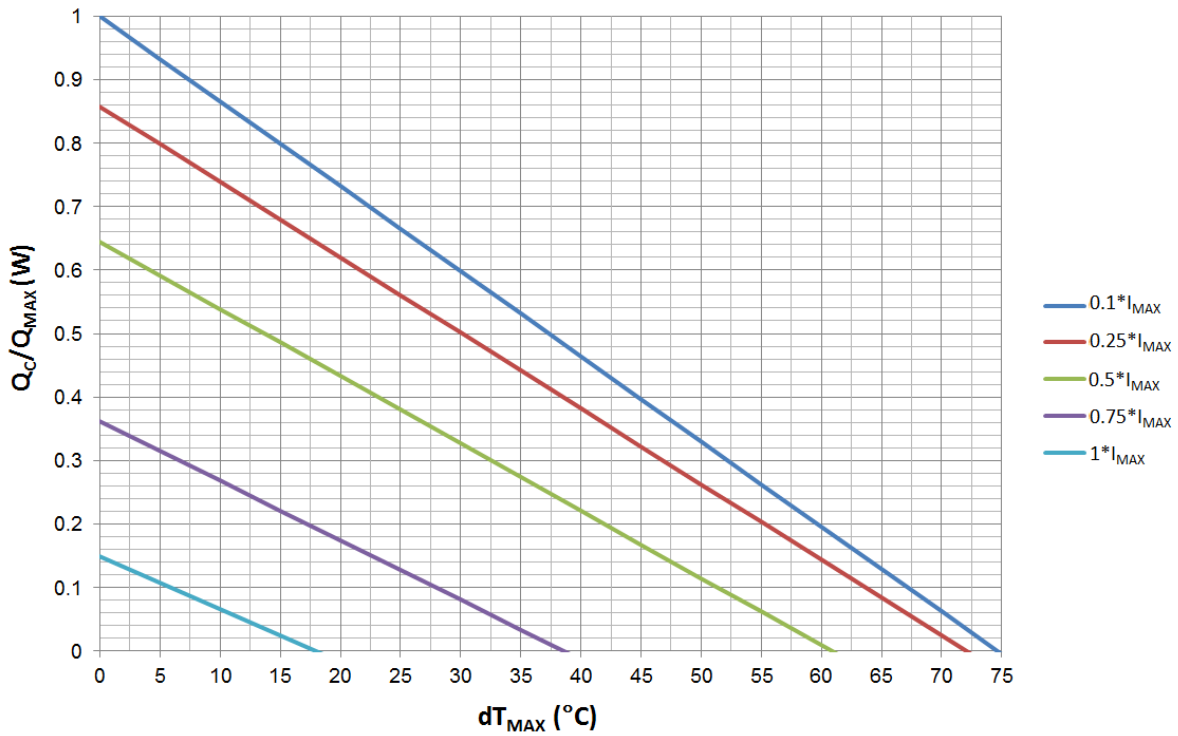
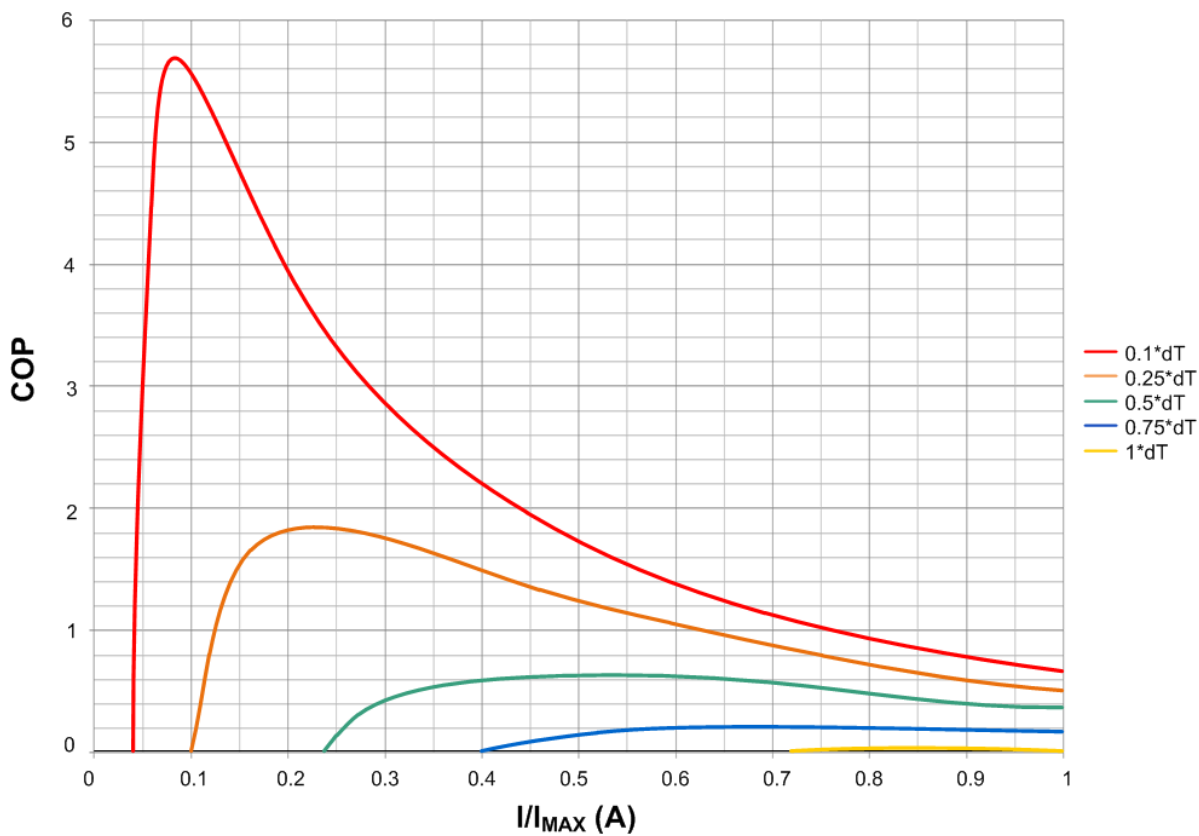

Figure 2. Q_c/Q_{MAX} vs. dT_{MAX}
Figure 9. COP vs. I/I_{MAX}
- Use the charts provided in Figure 2 to Figure 9, to decide which TEC to use, what is the heat needed to be dumped through the heat sink, what is the heat sink temperature, etc.